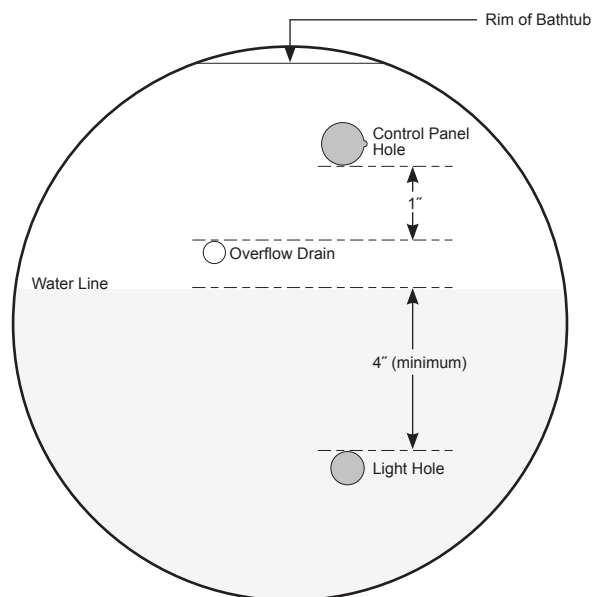

Figure 3 - Hole Pattern
- 3 Mark the center line of the two-hole pattern (Figure 3). It is critical that the $\frac{5}{32}$ " diameter notch hole be located correctly or the control panel will not be centered and straight.